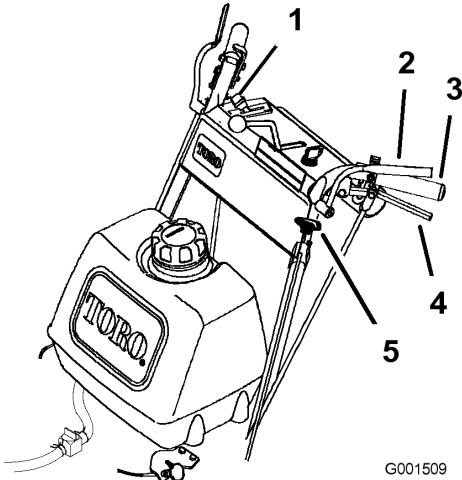

Figure 12
1. To engage blades, squeeze the Operator Presence Control (OPC) levers against handle grips (Figure 12).
1. Push the blade control knob (PTO) down to off (Figure 12).
2. Releasing the Operator Presence Control (OPC) levers will kill the engine and stop the blades (Figure 12).